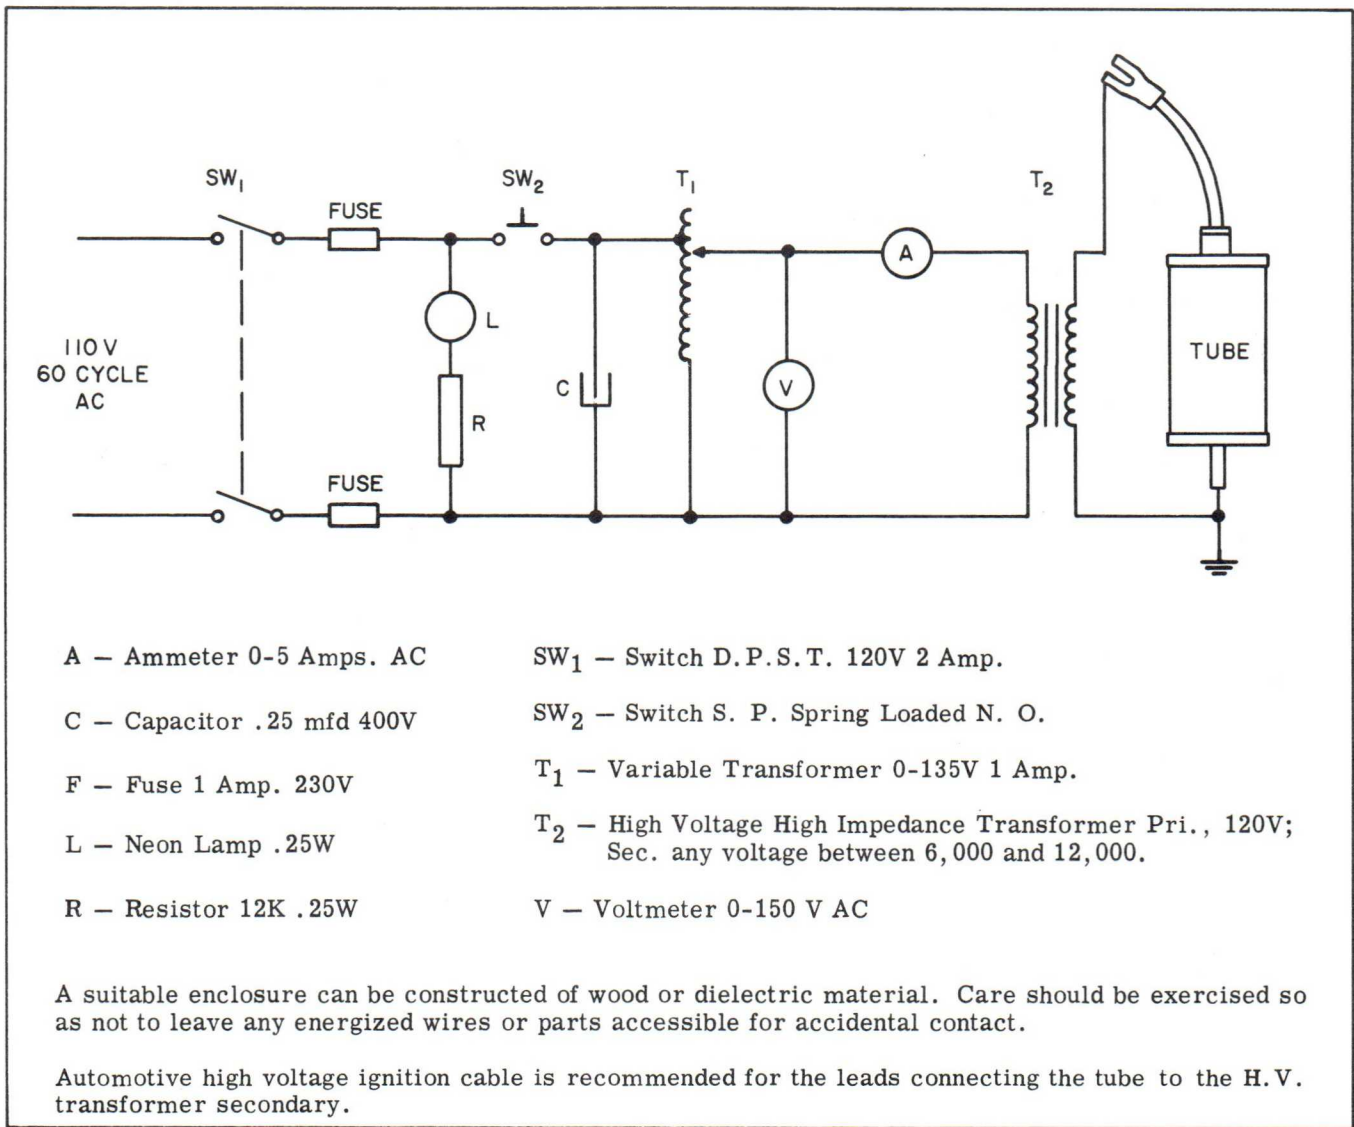

Figure 13. Test Setup For High Potential Vacuum Test
(2) HIGH POTENTIAL VACUUM TEST. (See figure 13)